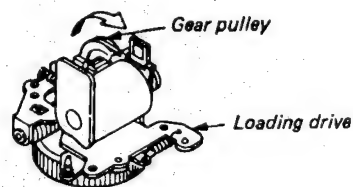

Fig. 1-3-27 Loading drive . FF mode
2. Remove the washer (A) and disconnect the pinch connector.
3. Remove the cam lever stopper and the washer (B), and remove the cam lever assembly upward.
4. Turn the gear pulley in direction shown by the arrow until it stops to set the FF/REW mode. (Fig. 1-3-27)
5. Remove the screws (A) and remove the loading drive assembly.
6. Remove the loading belt and the screws (B), and remove the motor.